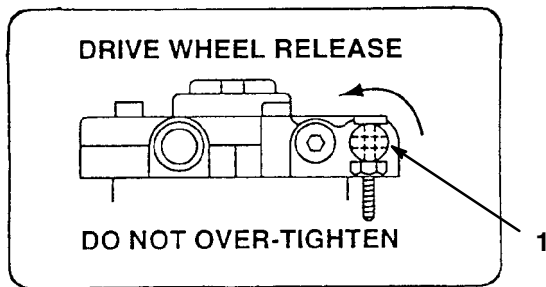

Figure 31
2. Rotate the by-pass valves counterclockwise 1 turn to push. This allows hydraulic fluid to by-pass the pump enabling the wheels to turn (Fig. 31).
Turn the by-pass valves in to operate (Fig. 31).